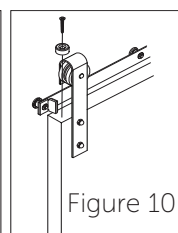

Figure 10
4. Place the Anti-Jump block on the top of the door (Figure 10). Using a drill with a Phillips bit, install the block with the 1" Phillips screw (provided).